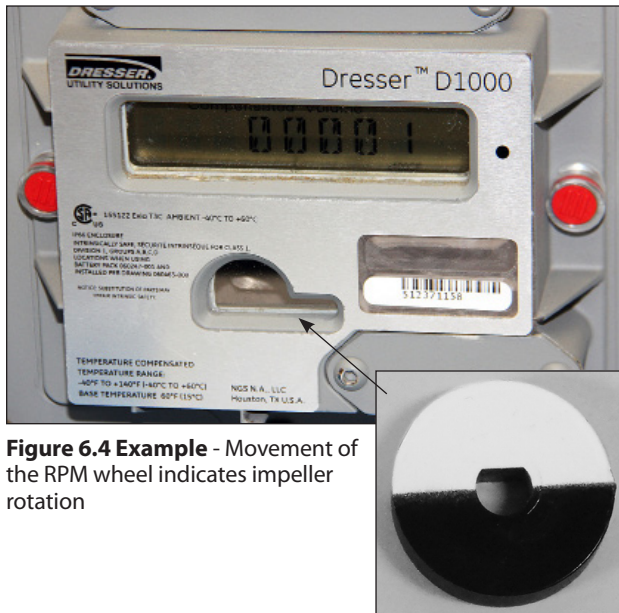

Figure 6.4 Example - Movement of the RPM wheel indicates impeller rotation
1. Very slowly, open the meter inlet valve just enough to allow gas into the meter. This will allow the meter to pressurize. The RPM Wheel (Figure 6.4 Example) may start to rotate during this process.